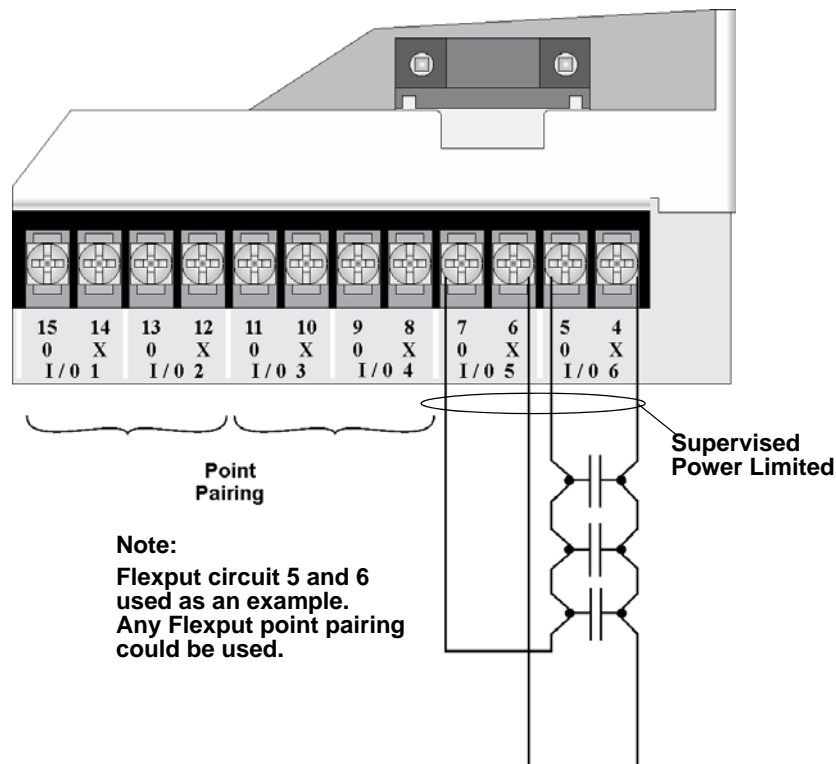

Figure 4-33 Class A initiating Switches
1. Wire the Class A switch as shown in Figure 4-33.
Note: In programming any point that uses multiple Flexput circuits, the lowest Flexput circuit number is used to refer to the circuit pair. For example, Figure 4-33 uses both Flexput circuit 5 and 6, so in programming it would be referred to as point 5.